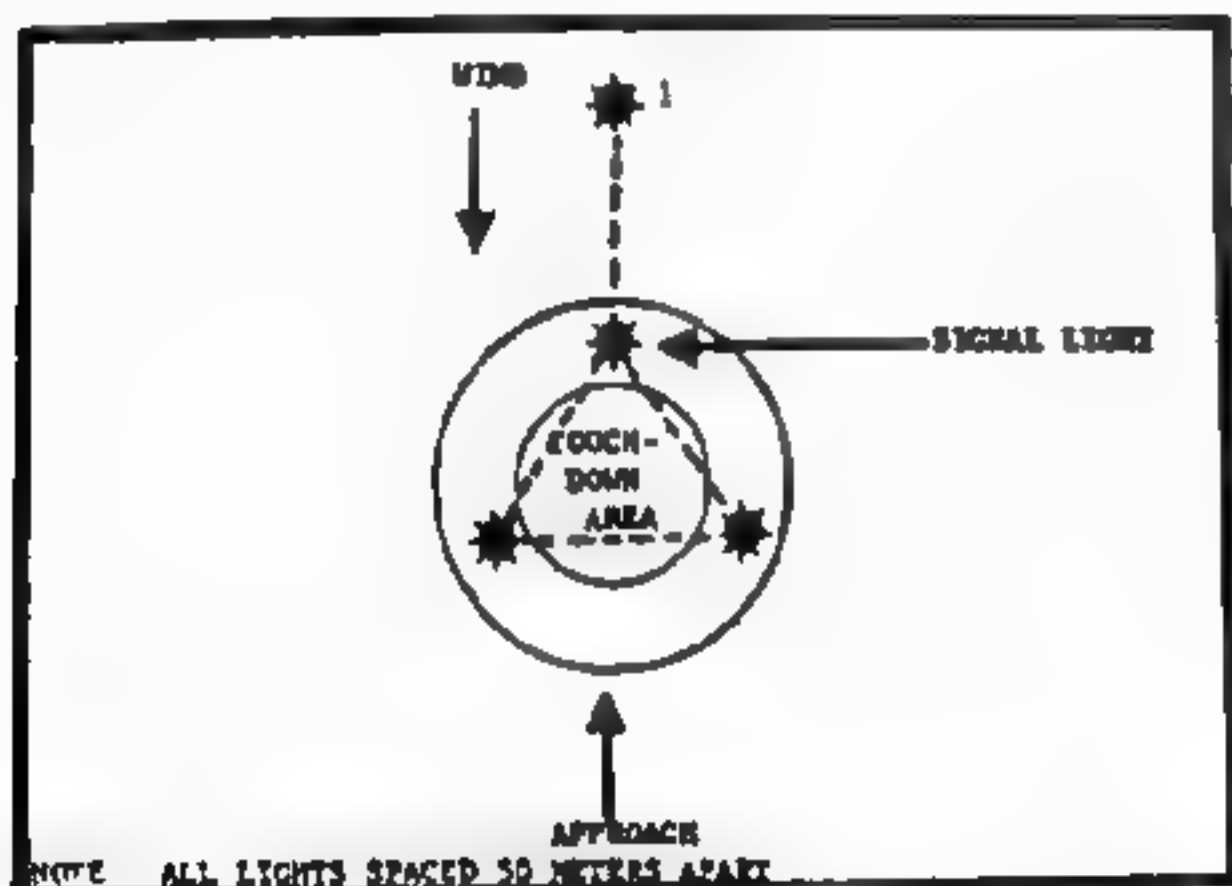

Figure 21. Marking of landing zones for use by rotary-wing aircraft.
(1) LZ's for rotary-wing aircraft are marked to:
(2) Equipment and techniques of marking are similar to those used with fixed-wing DZ's, lights or flares at night, smoke and panels in daylight.
(3) An acceptable method of marking is the "T" system. This uses four marker stations (Figure 21).